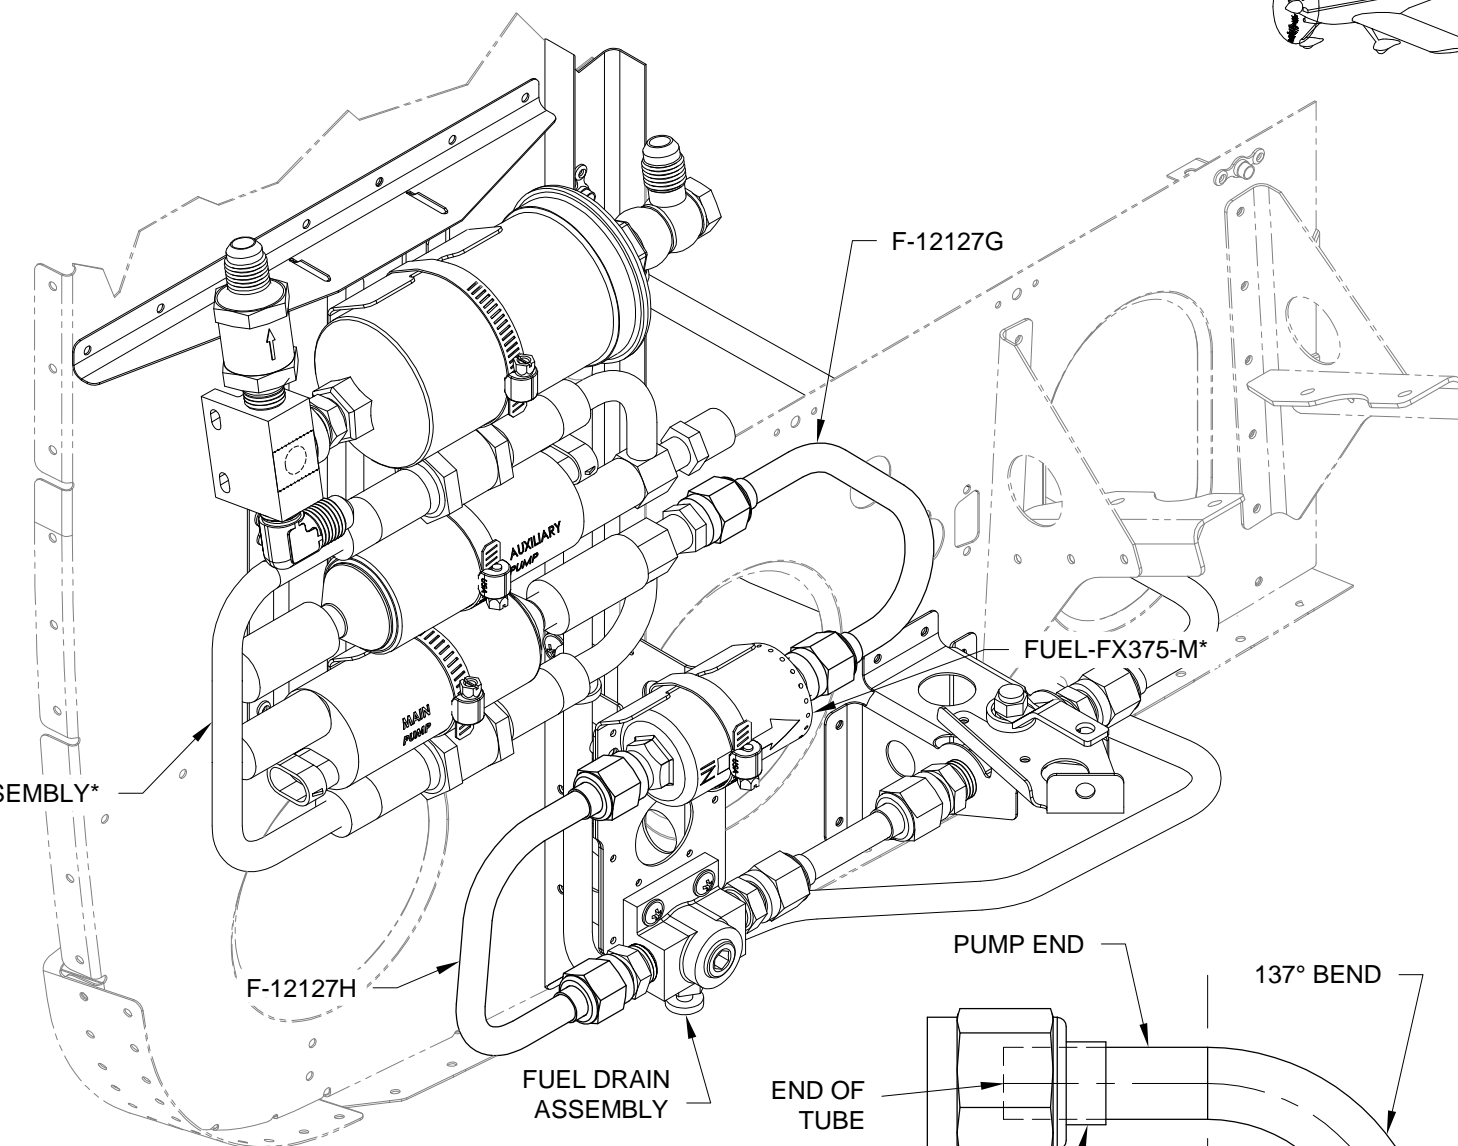

FIGURE 2: F-12127H AND F-12127G FUEL LINE INSTALLATION
Step 7: Attach the fuel line to the FUEL-FX375-M* and the Rotax Fuel Pump Assembly* as shown in Figure 2. Tighten the hose clamps holding pump assembly.